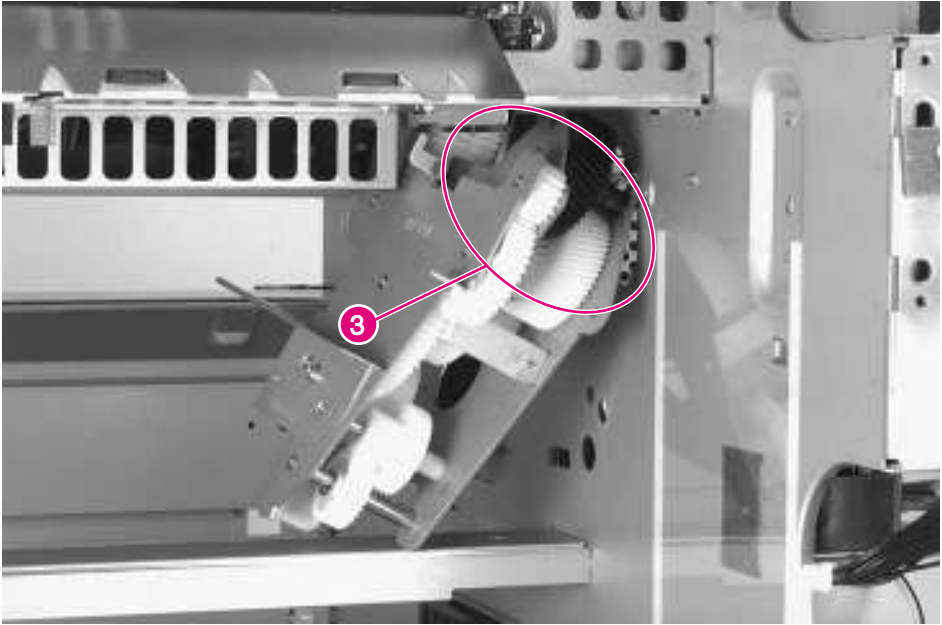

Figure 6-40 **Main Gear Assembly (3 of 3)**
- 2 Tilt the top of the assembly inward and insert the upper back part of the assembly in place (figure 6-40, callout 3).